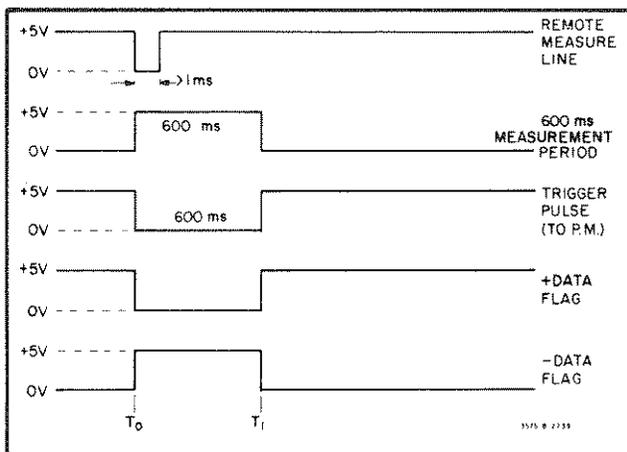

Figure 3-11. Flag Timing Non-Delayed Mode.
Mode line in a "true" condition (gnd. or -0.5 V to +0.4 V). When the Trigger Mode line is grounded, the timing sequence is in the Non-Delayed Mode which operates as shown in Figure 3-11.
**3-84. Non-Delayed Mode.** In Figure 3-11, the Remote Measure line is pulled low at T0 by the external controller. This immediately initiates the 600 ms delay, triggers the panel meters and sets the + and - Data Flags. At the end of the 600 ms delay (T1), the Data Flags are reset to indicate that a reading has been taken.